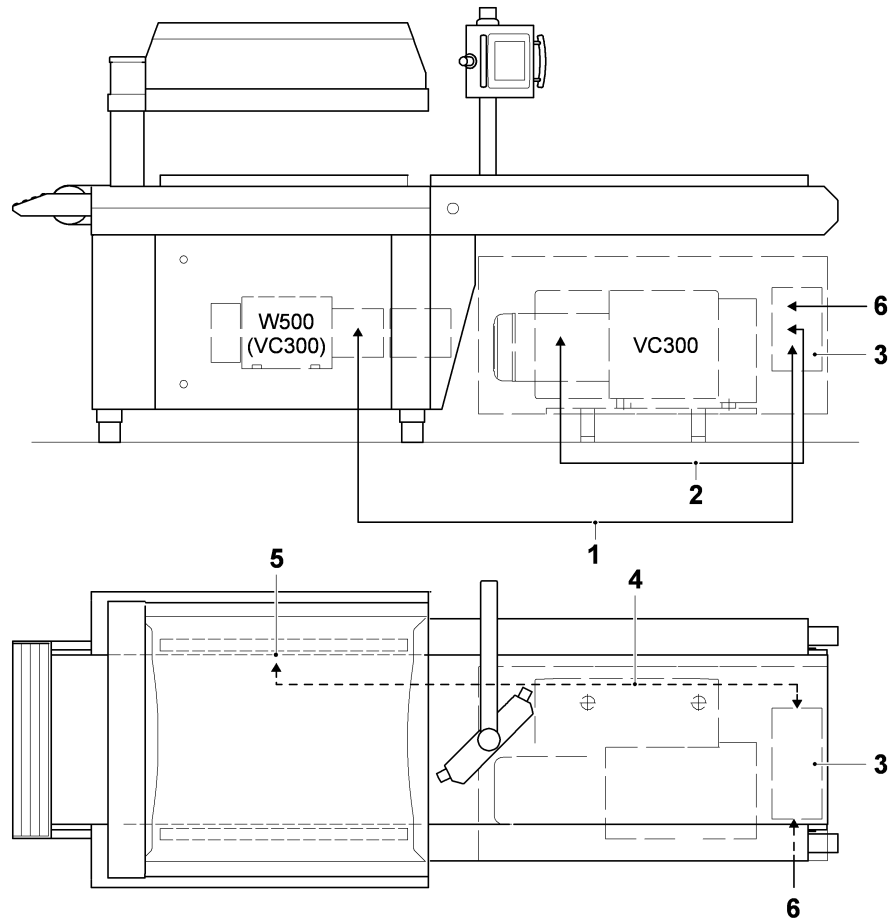

Fig. 6/4
The compressed air must be supplied via an air hose with an inside diameter of 9 mm. This hose must be fed from below to the connecting branches (Fig. 6/3, pos. 2) and fixed into position with a suitable hose clip.